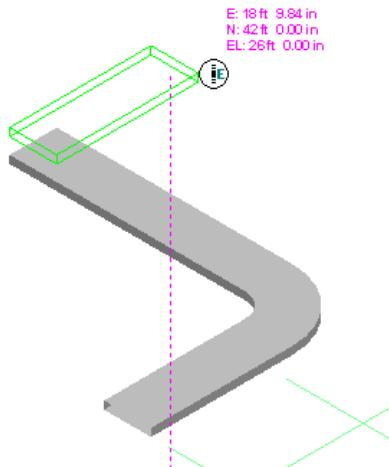

Figure 21: Third Cableway Section in East Direction
19. Position the cursor in the east E direction and click to define the end point to place 6 ft cableway, as shown in Figure 21.